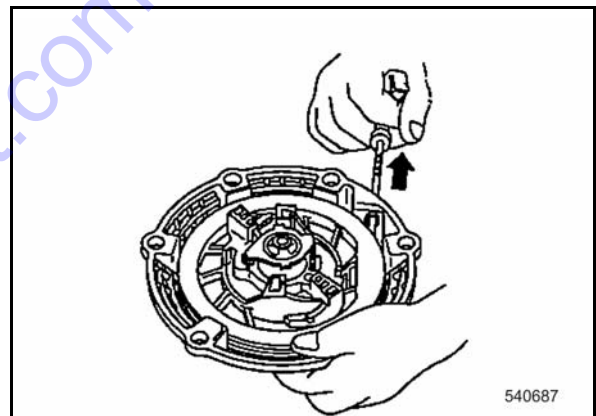

Fig. 67
- Pull the starter rope completely out by the starter handle (Fig. 67).